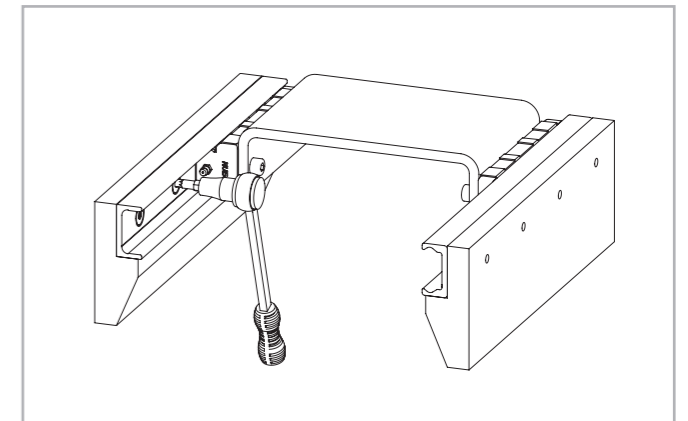

Fig. 113
(2) Install the compensating bearing rail and only tighten the fixing screws slightly.
(3) Insert the sliders in the rails and install the element to be moved, without tightening its screws.
(4) Insert the element in the center of the rails and tighten it with the correct tightening torque (see pg. CR-59, tab. 42).
(5) Tighten the center rail fixing screws to the specified torque (see fig. 113).